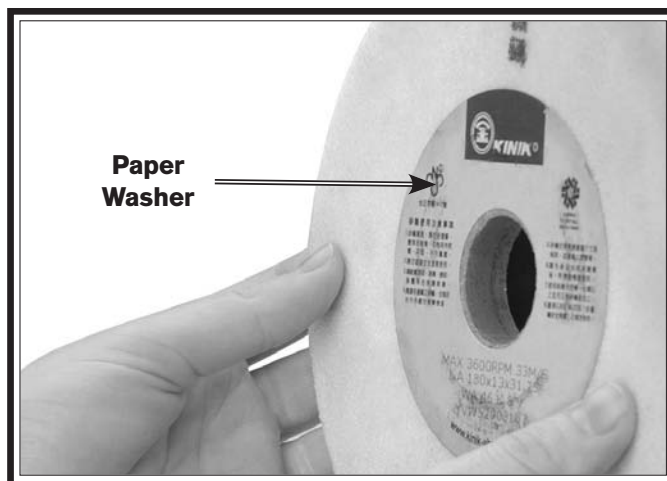

Figure 19. Important paper washer.
9. Inspect the paper washers for missing pieces on both sides of the grinding wheel (**Figure 19**). The paper washers are cushions between the spacer washer and the grinding wheel seat. Without the washers, cracks can spawn from the center of the wheel when the spanner nut is tightened. Over time, these cracks can radiate outward and the wheel may explode possibly causing injury.